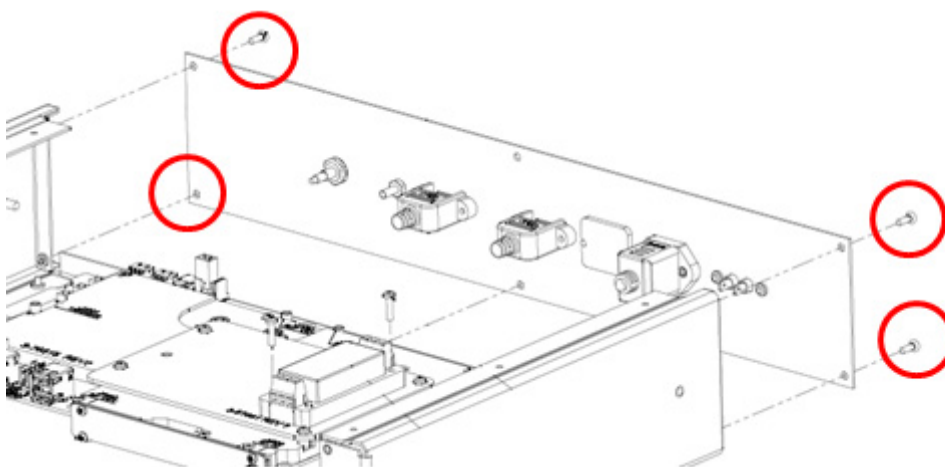

Figure 3-15. Rear Panel Screws
3. Referring to Figure 3-15, remove the 4 screws attaching the rear panel to side panels.